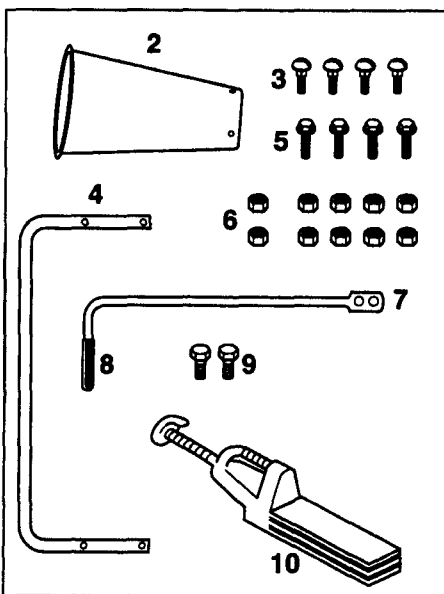

Figure 2-1: Contents of shipping carton (shown at reduced sizes).
2. Remove any packing material from around the unit. Remove the chipper chute (item 2, Figure 2-1) and clutch lever (item 7, Figure 2-1) from the top of the machine. Remove the package containing loose parts. Be sure to check thoroughly for any parts before disposing of the carton or any of the packing materials.
Check that you have the items listed below and shown in Figure 2-1. Contact your authorized dealer or the factory if any items are missing or damaged.
- (1) Chipper chute (No. 2, Figure 2-1).
- (4) 1/4"-20 x 5/8" round hd. carriage bolts (No. 3, Figure 2-1).
- (1) Handle (No. 4, Figure 2-1) - shipped upside down on shredder hopper.
- (4) 1/4"-20 x 1-1/4" flange hd. cap screws (No. 5, Figure 2-1).
- (10) 1/4"-20 toplock nuts (No. 6, Figure 2-1).
- (1) Top section of clutch lever (No. 7, Figure 2-1).
- (1) Vinyl grip for clutch lever (No. 8, Figure 2-1).
- (2) 1/4"-20 x 3/4" hex hd. cap screws (No. 9, Figure 2-1).
- (1) Leaf tamper (No. 10, Figure 2-1).
- (2) 7/16" wrenches\*